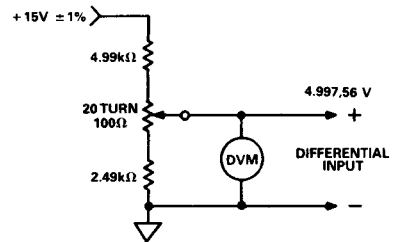

Figure 7. Voltage Divider to Derive R_{TO} V_{OS} and Span Calibration Voltage
2. Connect the plus input to ground and the minus input to $4.997,56$ volts using a voltage divider such as in Figure 7.